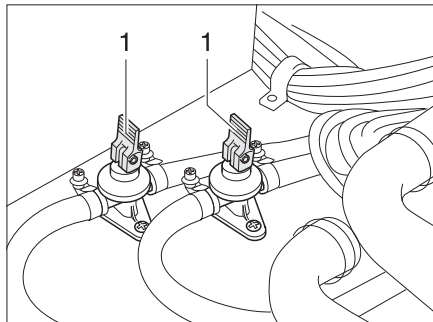

Fig. 121 Drain cocks
- Close the drain cocks. Position the rocking levers (Fig. 121,1) horizontally.
- Open the drain cocks (Fig. 121). Position the rocking levers (Fig. 121,1) vertically. The boiler is drained to the outside using the drain cocks.